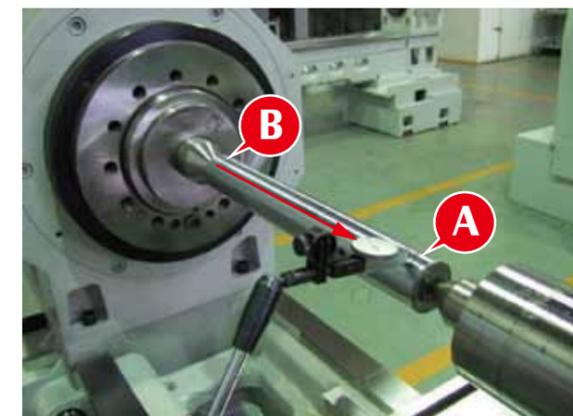
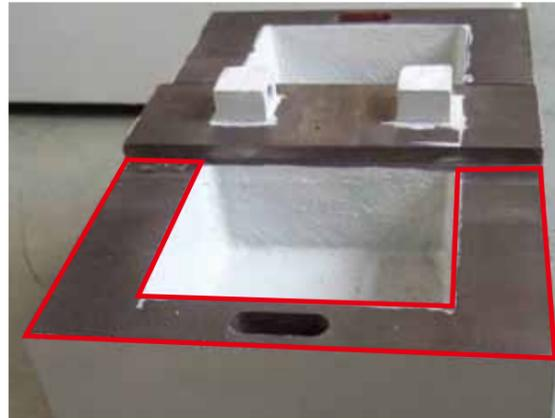
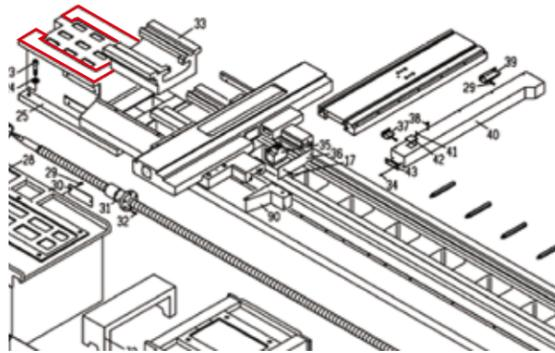

Fig.9
Fig.10
Fig.11
6) Ensure the accuracy in the vertical plane to be within  $0 \sim +0.02\text{mm}$  (see Fig.9).
7) If point A is higher than point B (see A and B in Fig. 9), grind the base of tailstock (see Fig. 10, marked in red).
8) If point B is higher than point A (see A and B in Fig. 9), take off the head stock and grind the bed (see Fig. 11, marked in red) to adjust vertical position.